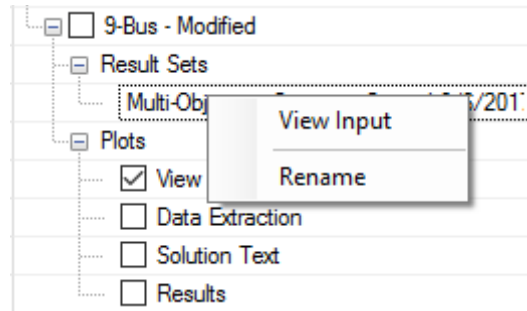

Figure 46. Opening the input set that created this result set.
8. Under the “Result Sets” header, right click on the solution set previously generated by the solver. (Figure 46).